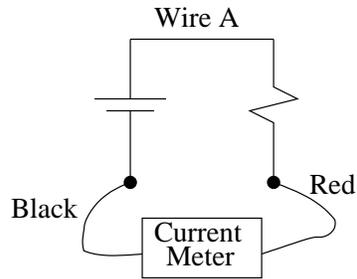

Figure 3: To measure the current through Wire B, *replace* Wire B with the current meter.
- Next we will measure the current through Wire B. We do this by *replacing* Wire B with the current meter, as shown in Figure 3. The current meter is doing the job that Wire B did before, namely allowing current to flow from the resistor back to the DC supply. The only difference is that the current meter is a “smart” wire that detects how much current is flowing through it.